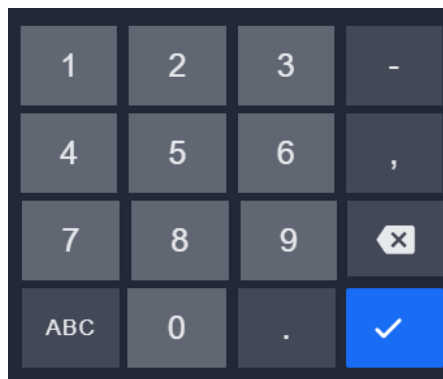

Fig. 1.24
2. Tap the PIN field and enter your four-digit PIN using the pop-up keypad (Fig 1.24).